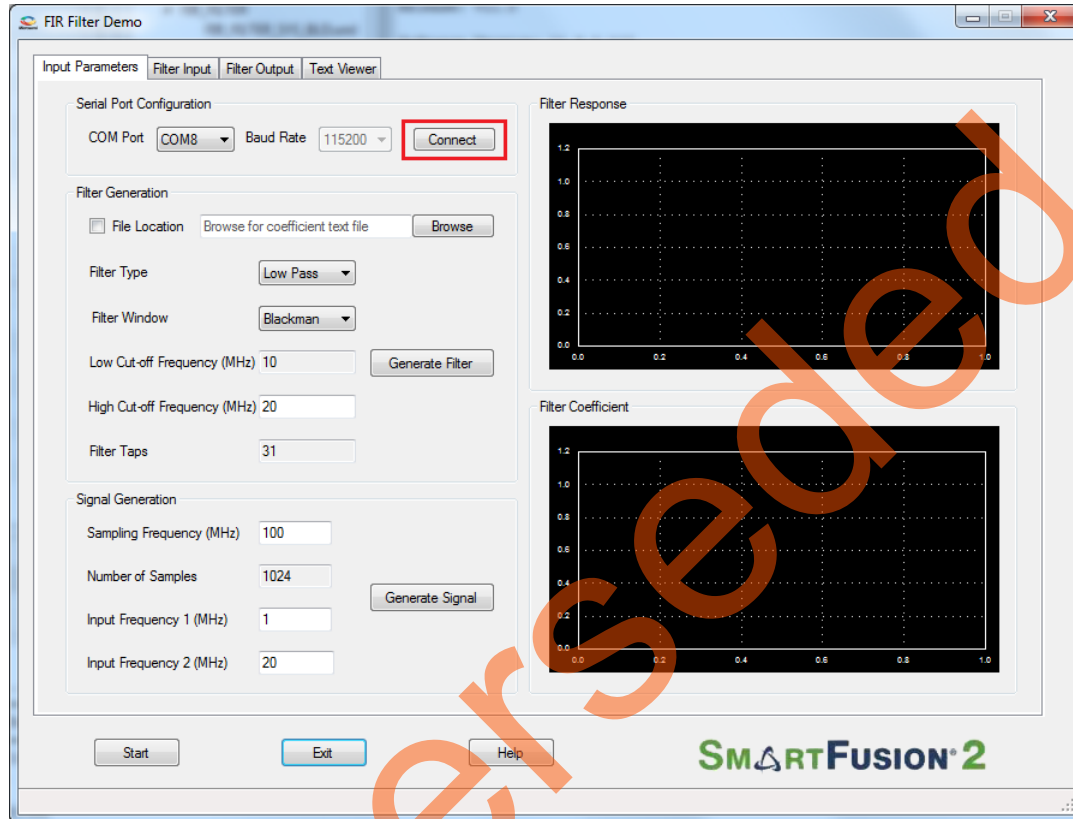

Figure 10 • Serial Port Configuration
1. Launch the DSP FIR Demo GUI executable file available in the design files (\\FIR_FILTER_DEMO_DF\\GUI\\SF2_FIR_Filter.exe). The FIR Filter Demo window is displayed, refer to Figure 10.
2. **Serial Port Configuration:** The COM port number is automatically detected and baud rate is fixed at 115200. Press **Connect** as shown in Figure 10.